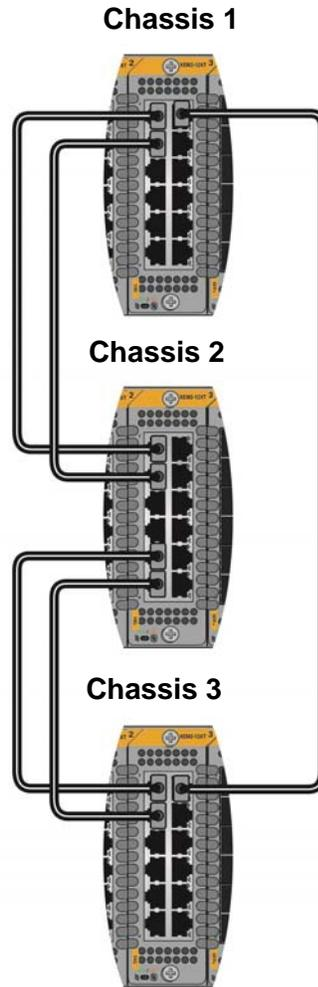

Figure 21. Unsupported Trunk Because Switches Have Different Numbers of Trunk Links
- ❑ Figure 21 is an example of an unsupported trunk because the units do not have the same number of trunk links. There are two links between chassis 1 and 2 and chassis 2 and 3, but only one link between chassis 1 and 3.